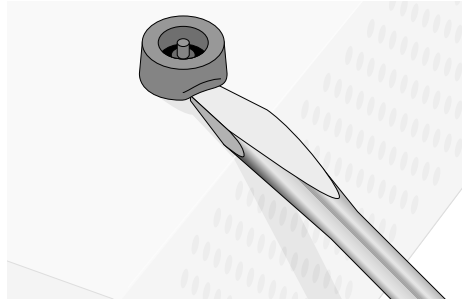

Figure 3-3 Removing the Feet
3. Remove the snap-on plastic feet from the bottom of the switch, as shown in Figure 3-3.